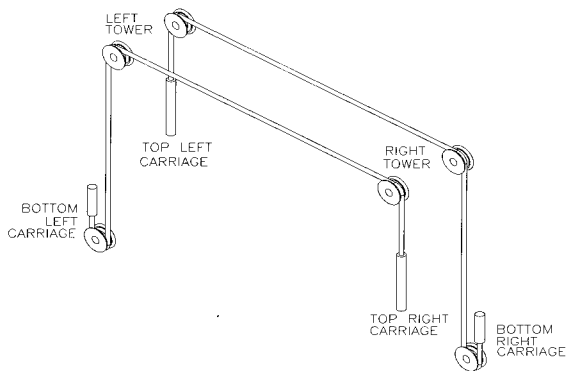

Figure 6a
2. Remove equalizing cables from the accessory kit box, and locate the (8) ½”-13UNC nuts in the hardware kit box.
3. Equalizing cables are to be routed as shown in **Fig. 6a**. Using the first cable, insert the short threaded stud through the 5/8”dia. hole at the bottom of the carriage (see Figure 10 Cable Mount “C”), and feed upwards until the stud comes through the top of the carriage. Place a ½”-13UNC nut at the center of the stud, and then **firmly tighten** a second nut up against it using two wrenches. Pull the cable back down through the bottom of the carriage.
6. Route the cable up through the tower, around the pulley at the top of the column, across the crossmember, around the pulley at the top of the other column and then down (**Fig 6a**). Insert the threaded stud into the 5/8” dia. mounting hole in the opposite carriage.